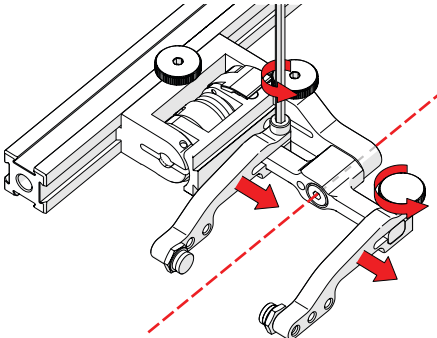

Fig. 73 - Adjust probe holder arms
5. Loosen the probe holder arm adjustment knob (Fig. 73) and remove outer probe holder arm from yoke.
6. Adjust inner probe holder arm as required to best centre the probe on the yoke's pivot axis (Fig. 73).
TIP: The probe holder yoke can accommodate many different probe and wedge sizes of varying widths. It is best to centre the wedge with the yoke's pivot axis to reduce wedge tipping when scanning. Position the inner probe holder arm accordingly with the centre of the yoke (Fig. 73).